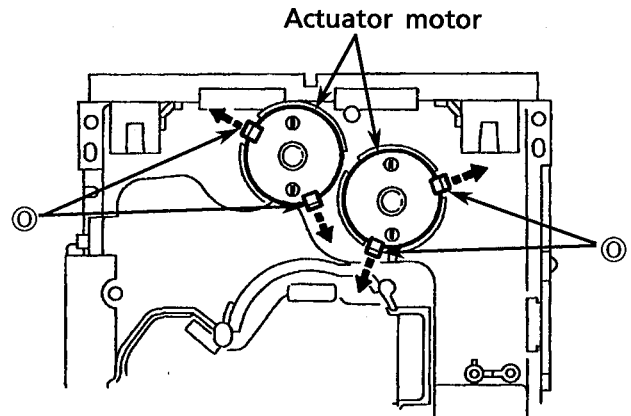

Fig. 25
5. Reverse the chassis ass'y and widen 4 pawls ㊟ which secure both actuator motors to its arrows to remove the actuator motors. (See Fig. 25.)